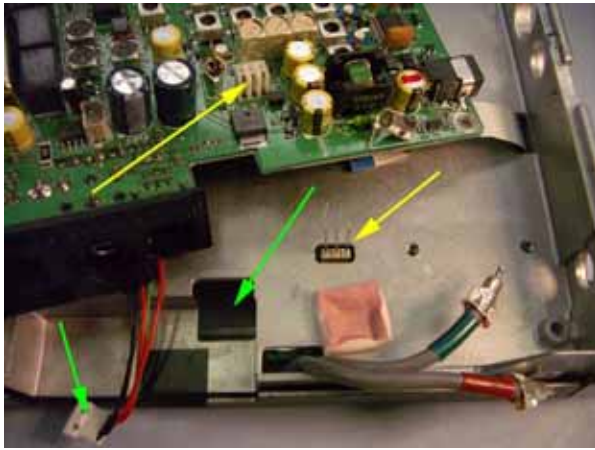
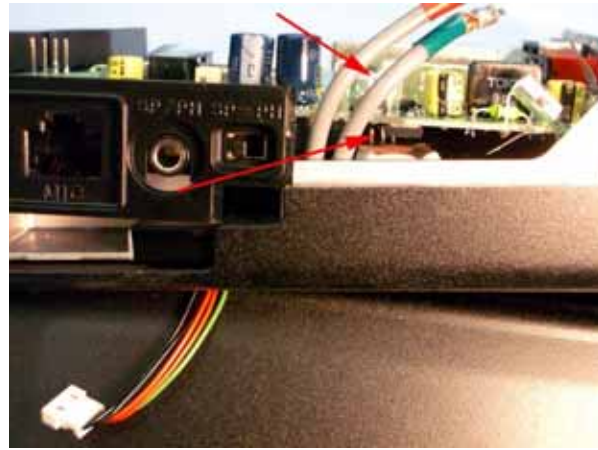

Figure 7
Figure 8
14. To reinstall the PCB, you need to route the battery lead through the cutout in the chassis (see green arrows in Fig. 7) and carefully align the three (3) pins sticking out of the chassis into the mating connector on the PCB (see yellow arrows). This can be a little tricky. Look at Fig. 8 also. The arrows show the pins and jack mating.
15. Replace the five (5) screws that hold the PCB in place and reconnect the two (2) ribbon cables and two (2) coax connectors. Replace the two (2) side screws and the bottom screw.